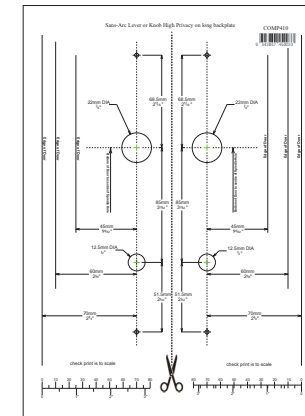

Figure 6
8. Drill the privacy hole using a 12.5mm or 1/2 "spade bit. ***Check CTC matches your requirements. Figure 6 or 7.**